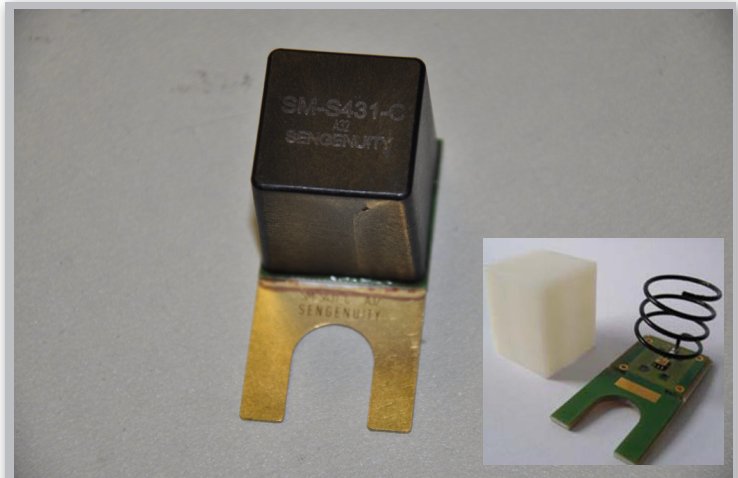
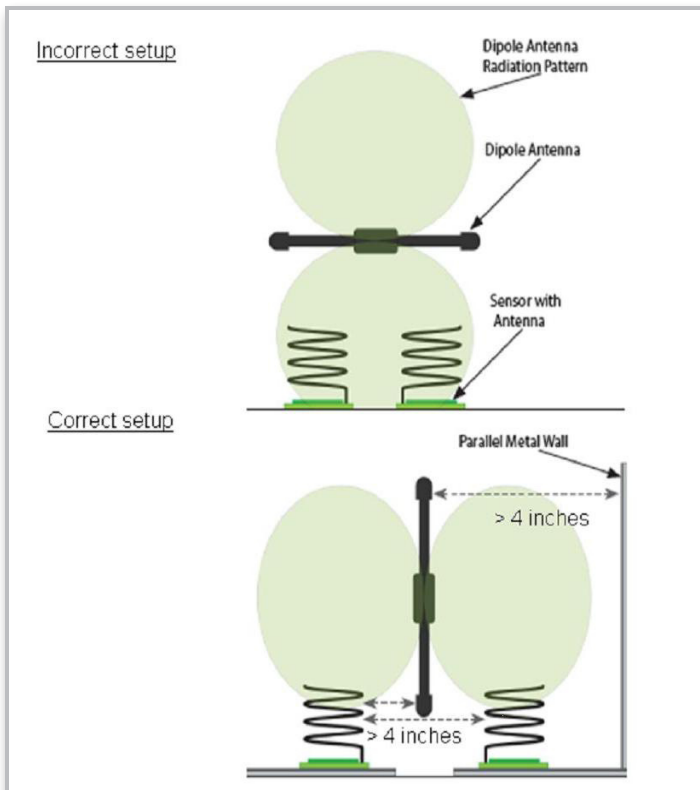

Figure 7: Wireless Temperature Sensor
Figure 8: Incorrect and Correct Setup
Place the sensors at designated target locations. Figure 7 shows a wireless temperature sensor. Please note the orientation of the antenna in the inset (picture of sensor without the cap) to correctly interpret Figure 8.
- Ensure that the sensors are placed within the lobes of the dipole radiation pattern. Figure 8 shows sensor positions that will most likely not work and also shows sensor positions that will work.